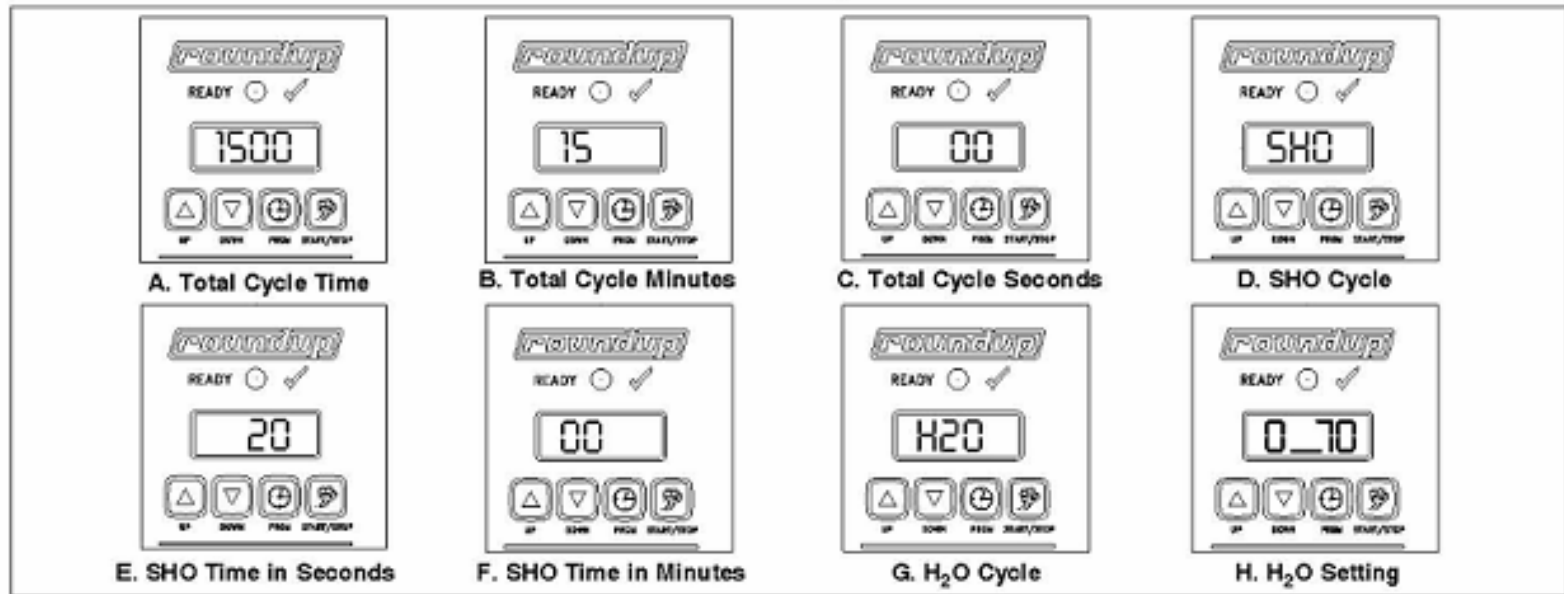

Figure 6. Control Programming Sequence
To program the control, refer to Figure 6 and use the following procedure in sequence:
1. Turn the Rocker Switch (power On/Off) to ON. The display will show the factory programmed Total Cycle Time in minutes and seconds (Item A, Figure 6).
3. To change the Total Cycle Time in minutes, use the UP or DOWN arrow buttons to change the time (Item B, Figure 6).
4. Press and release the Program button again, and use the UP or DOWN arrow buttons to change the Total Cycle Time in seconds (Item C, Figure 6).
5. To change the SHO factory settings, make sure the control is in PROGRAM mode, then press and hold the two arrow buttons simultaneously for 1-2 seconds and then release. SHO will be displayed (Item D, Figure 6).
SHO (Shot Interval Time) in seconds (Item E, Figure 6).
7. Press and release the Program button again and use the UP or DOWN arrow buttons to change the SHO (Shot Interval Time) in minutes (Item F, Figure 6).
8. Press and release the Program button again and H₂O will be displayed (Item G, Figure 6).
9. To change the H₂O (Steam Shot time), press and release the Program button again to display the setting (Item H, Figure 6). Use the UP or DOWN arrow buttons to increase or decrease the time.